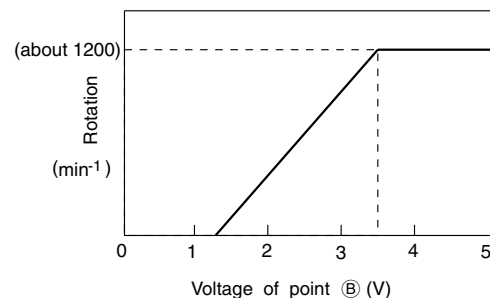

Fig. 6-3
- This pulse changes to analog voltage by R751 and C751 and it is applied to the fan motor as instruction voltage number of rotations. The relationship between the voltage of point ①B and number of rotations becomes as shown in Fig.6-3. (The gap may arise depending on the condition of unit.)
- The feedback pulse of number of rotation is outputted from the fan motor and input to micro computer pin ①⑭. The frequency of this pulse is 12/60 of the number of rotations. (Ex: 1000min⁻¹ X 12/60=200Hz) The micro computer observes this frequency and to make it as the instruction number of rotation all the time, adjusts the output pulse width of pin ④⑩.